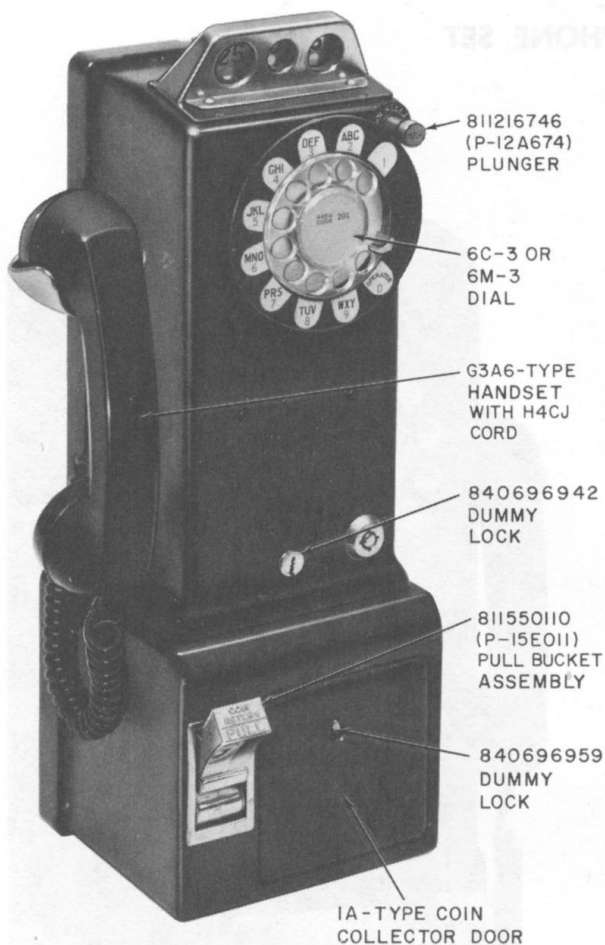

Fig. 2—D-180574 Coin Decorator Telephone Set Without Mounting Facility
2.02 Refer to Fig. 2 through 7 for component parts.